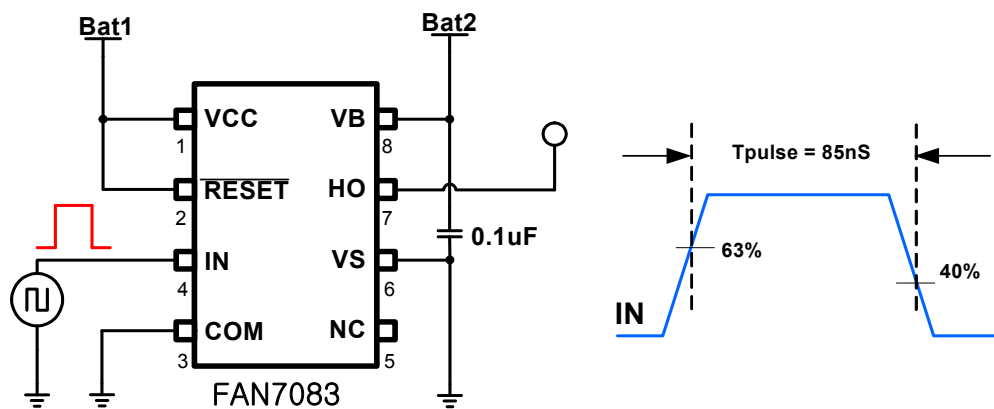

Figure 4a.Short Pulse Width Test Circuit and Pulse Width Waveform
3) Guaranteed by design. Refer to Figure 4a, 4b and 4c on Page 9.